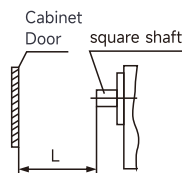

Figure 37
(1) As shown in Figure 37, fix the switch vertically on the mounting plate inside the switchgear and place it in the "0" position when disconnected; Measure the distance L from the top of the switch square axis to the inner surface of the cabinet door.